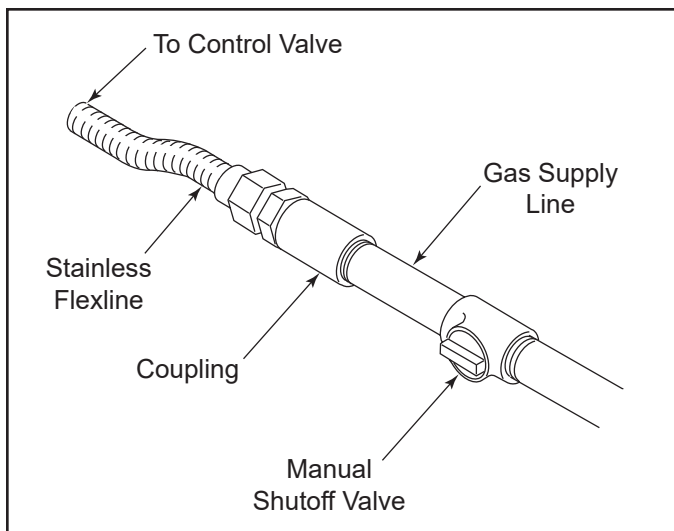

Figure 6.1 Gas Connection
- Pipe incoming gas line into firebox. See Figure 6.1.
- Recommended inlet pressure for optimal appliance performance: 7.0 in. w.c. (NG) 12.0 in. w.c. (Propane).